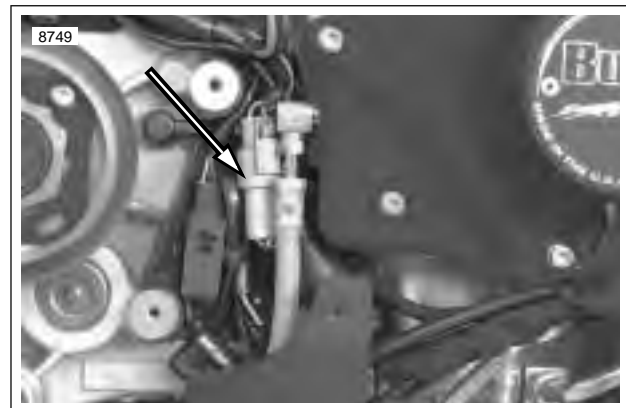

Figure 7-60. Vehicle Speed Sensor Connector [65]
1. See Figure 7-60. Locate the 3-place vehicle speed sensor connector [65] under the sprocket cover. See 2.30 SPROCKET COVER.
1. See Figure 7-60. Disconnect vehicle speed sensor connector [65]. Attach speedometer tester connector to vehicle speed sensor connector.